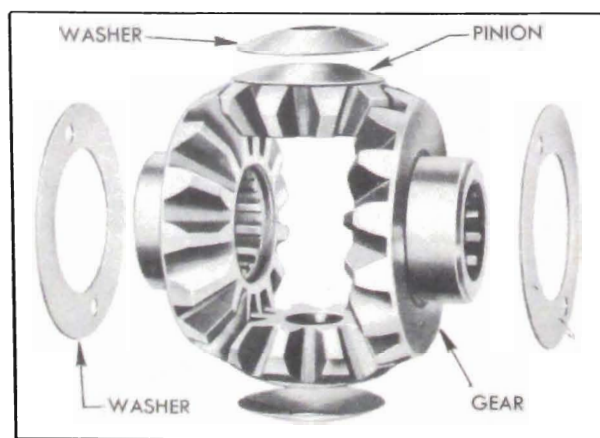

Figure 5-32—Differential Side Gears, Pinions, and Thrust Washers
13. Install differential side gears and thrust washers in case. See figure 5-32.
7. In some cases, however, it may not be possible to adjust end play to specified limits by installation of oversize spacers; therefore, new bronze thrust washers should be installed between the differential case and the side gears before selecting a spacer of proper thickness to provide not over .008" end play. See figure 5-32.